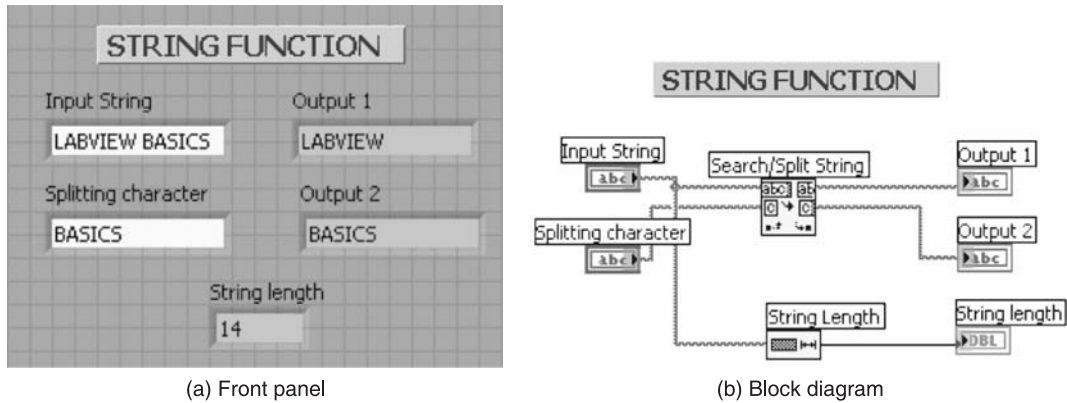

Figure P2.13
**Solution** Any input string can be provided. In this problem “LABVIEW BASICS” is given and the front panel and block diagram are shown in Figures P2.13(a) and P2.13(b).